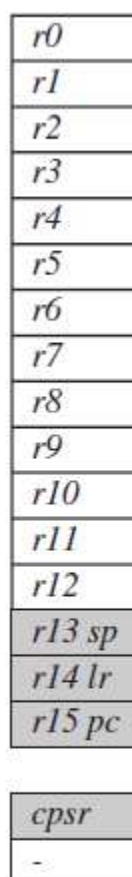

Figure 2.2 Registers available in *user* mode.
- Figure 2.2 shows the active registers available in user mode—a protected mode normally used when executing applications. The processor can operate in seven different modes.
- In Figure 2.2, the shaded registers identify the assigned special-purpose registers: